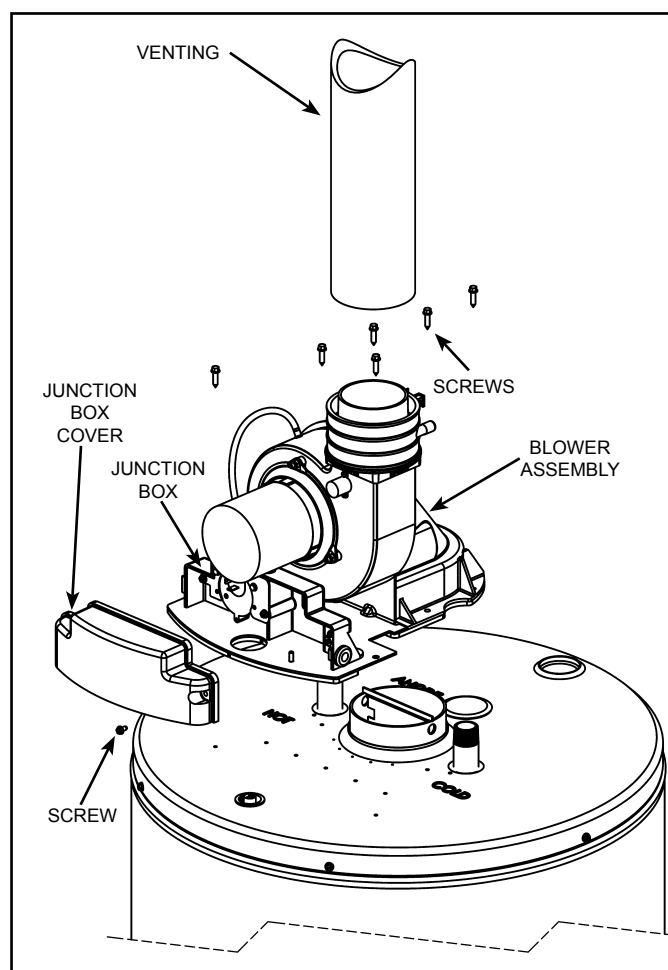

Figure 28
4. Use a 5/16" nutdriver to loosen the screw on the upper gear clamp of the rubber coupling adaptor connecting the venting to the blower. Slowly pull the vent from the adaptor (see Figure 28).
5. Use a 1/4" nutdriver or 1/4" socket & ratchet to loosen the screw on the junction box. Remove and retain the screw and junction box cover. Disconnect the power and ground connectors (see Figure 28).
6. Use a 1/4" nutdriver or 1/4" socket & ratchet to loosen, remove and retain the 6 hex head screws so the blower assembly can be removed. Remove the blower while carefully passing the power and ground connectors through the junction box opening (see Figure 28).
3. Align the screw holes on the blower assembly with those on the top of the heater. Using the six screws removed in step 6 above, install the blower assembly and tighten with 1/4" nutdriver or 1/4" socket & ratchet (see Figure 28).
**Note:** This power vent heater will accept a 2" or 3" rubber outlet coupling, depending on the size of the water heater. This coupling, mounted in the vertical position, accepts the vent piping and is attached as shown in Figure 28. Refer to the Manual to determine vent pipe sizing for your application. The blower assembly may be rotated 90 degrees clockwise or counter-clockwise to allow horizontal venting in areas having restricted space above the water heater (see "Rotating the Blower" section).
This power vent heater can accept 2" or 3" rubber outlet coupling, depending on the capacity of the water heater. This coupling, mounted in the vertical position, accepts the vent piping and is attached as shown in Figure 28.